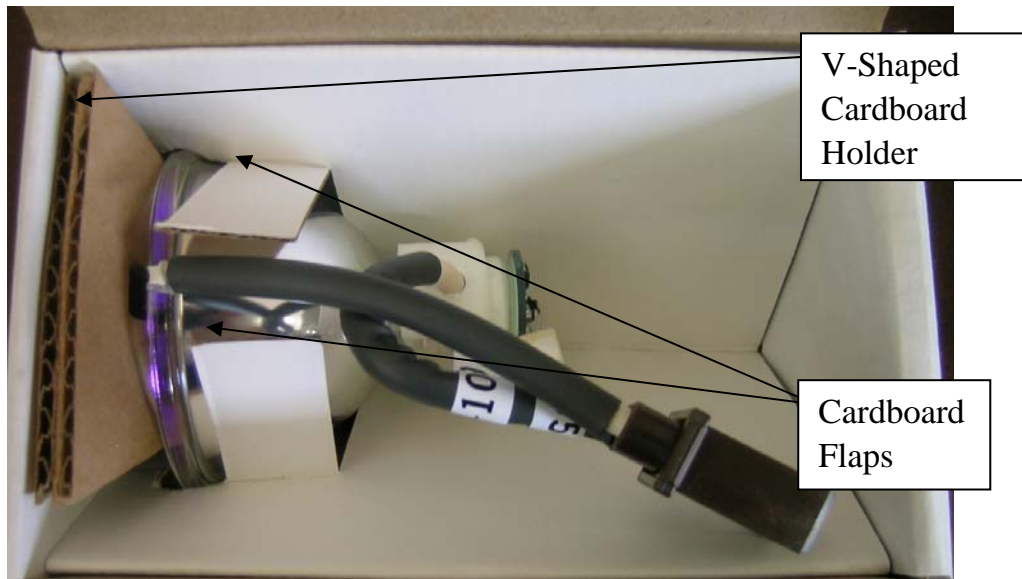

Figure 4.1b: Bulb storage and transportation carton.
4. Remove bulb from Carton (See Figure 4.1b below):